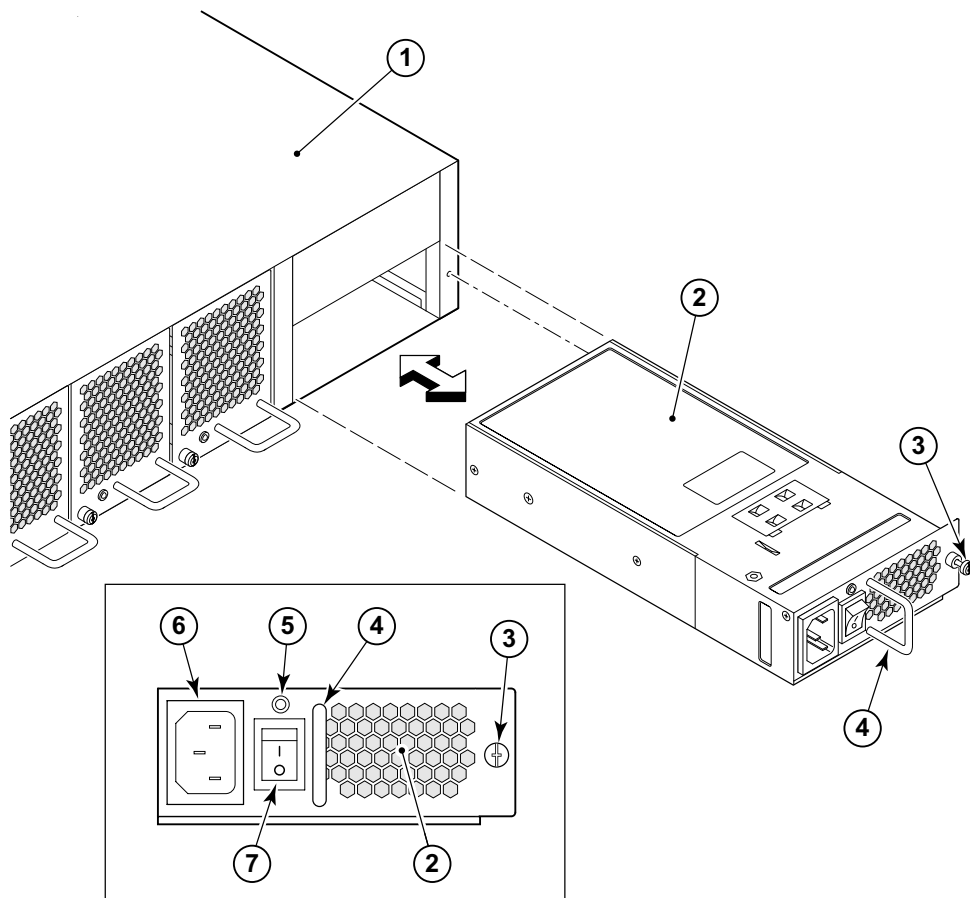

Figure 4-2 Inserting the fan assembly in the DS-4900B
- a. Orient the new fan assembly as shown in Figure 4-2 on page 4-5, with the captive screw on the right.